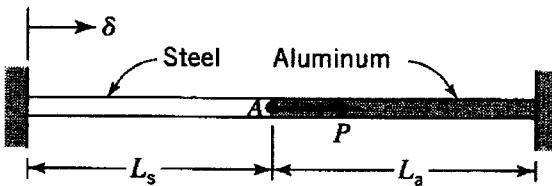

FIGURE P1.26 Bi-metallic rod.
1.26. A steel bar and an aluminum bar are joined end to end and fixed between two rigid walls as shown in Figure P1.26. The cross-sectional area of the steel bar is A_s and that of the aluminum bar is A_a . Initially, the two bars are stress free. Derive general expressions for the deflection of point A, the stress in the steel bar, and the stress in the aluminum bar for the following conditions: